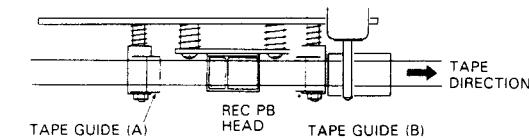

Fig.5-2.
- Adjust the tape guide (A) so that the parts of the erase head coming out of both sides of the tape (A and A') in Fig. 5-2 will be equal. For the adjustment, use the adjustment nut (A).
- Adjust the tape guide (B) so that the tape runs smoothly and is not hitched by the tape guide. For the adjustment, use the adjustment nut (B).
- After adjustment, paint-lock the adjustment nuts (A) and (B).